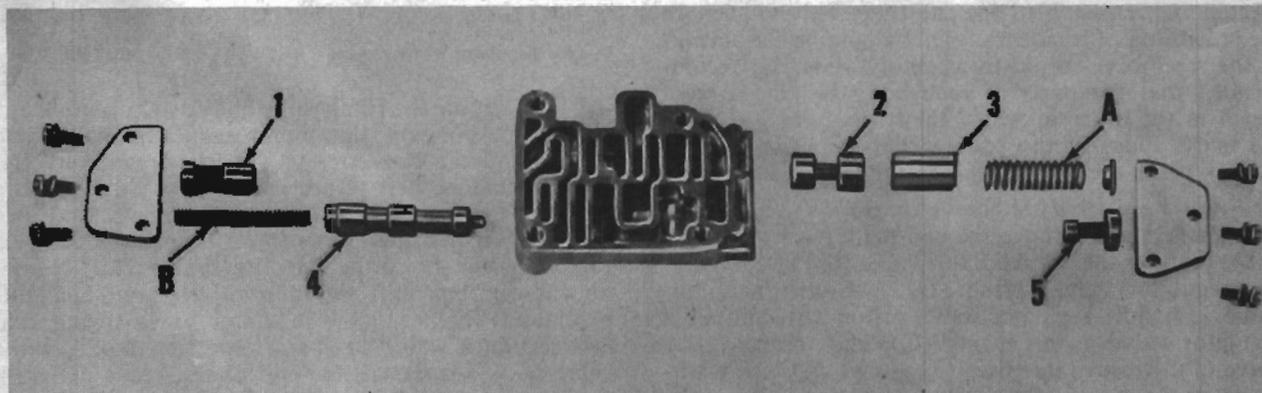

FIG. 377
**Rear Upper Valve Body.** Remove the three (3) screws and lock washers from the end plate and remove the end plate. Remove the direct shift valve spring seat, the direct shift valve piston spring (A, Fig. 377), direct shift valve piston rear (3), and the direct shift valve (2); also, remove the low high shift valve piston (5). Remove the screws and lock washers from the other end plate and remove the direct shift valve piston front (1), low high shift valve (4), and low high shift valve spring (B).